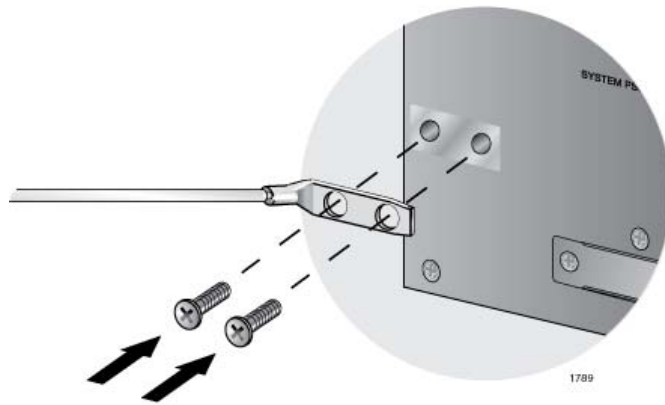

Figure 46. Installing the Grounding Lug and Wire
4. Install the grounding lug on the chassis, as shown in Figure 46. Allied Telesis recommends tightening the screws to 20 inch-lbs.